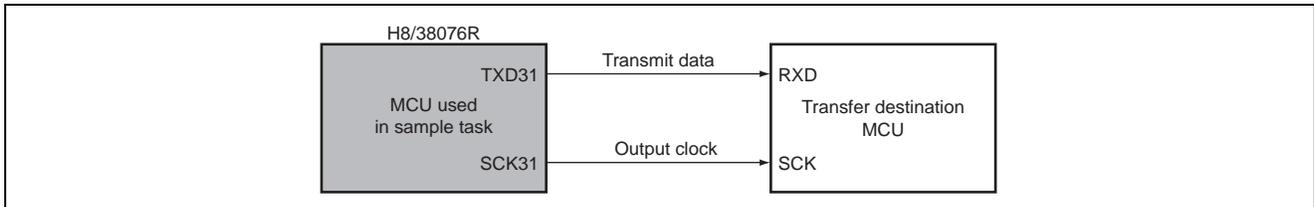

Figure 1 Serial Data Transmission (Master Transmission) in the Clock-Synchronous Mode
- Figure 1 shows a connection diagram for serial data transmission (master transmission) in the clock-synchronous mode.